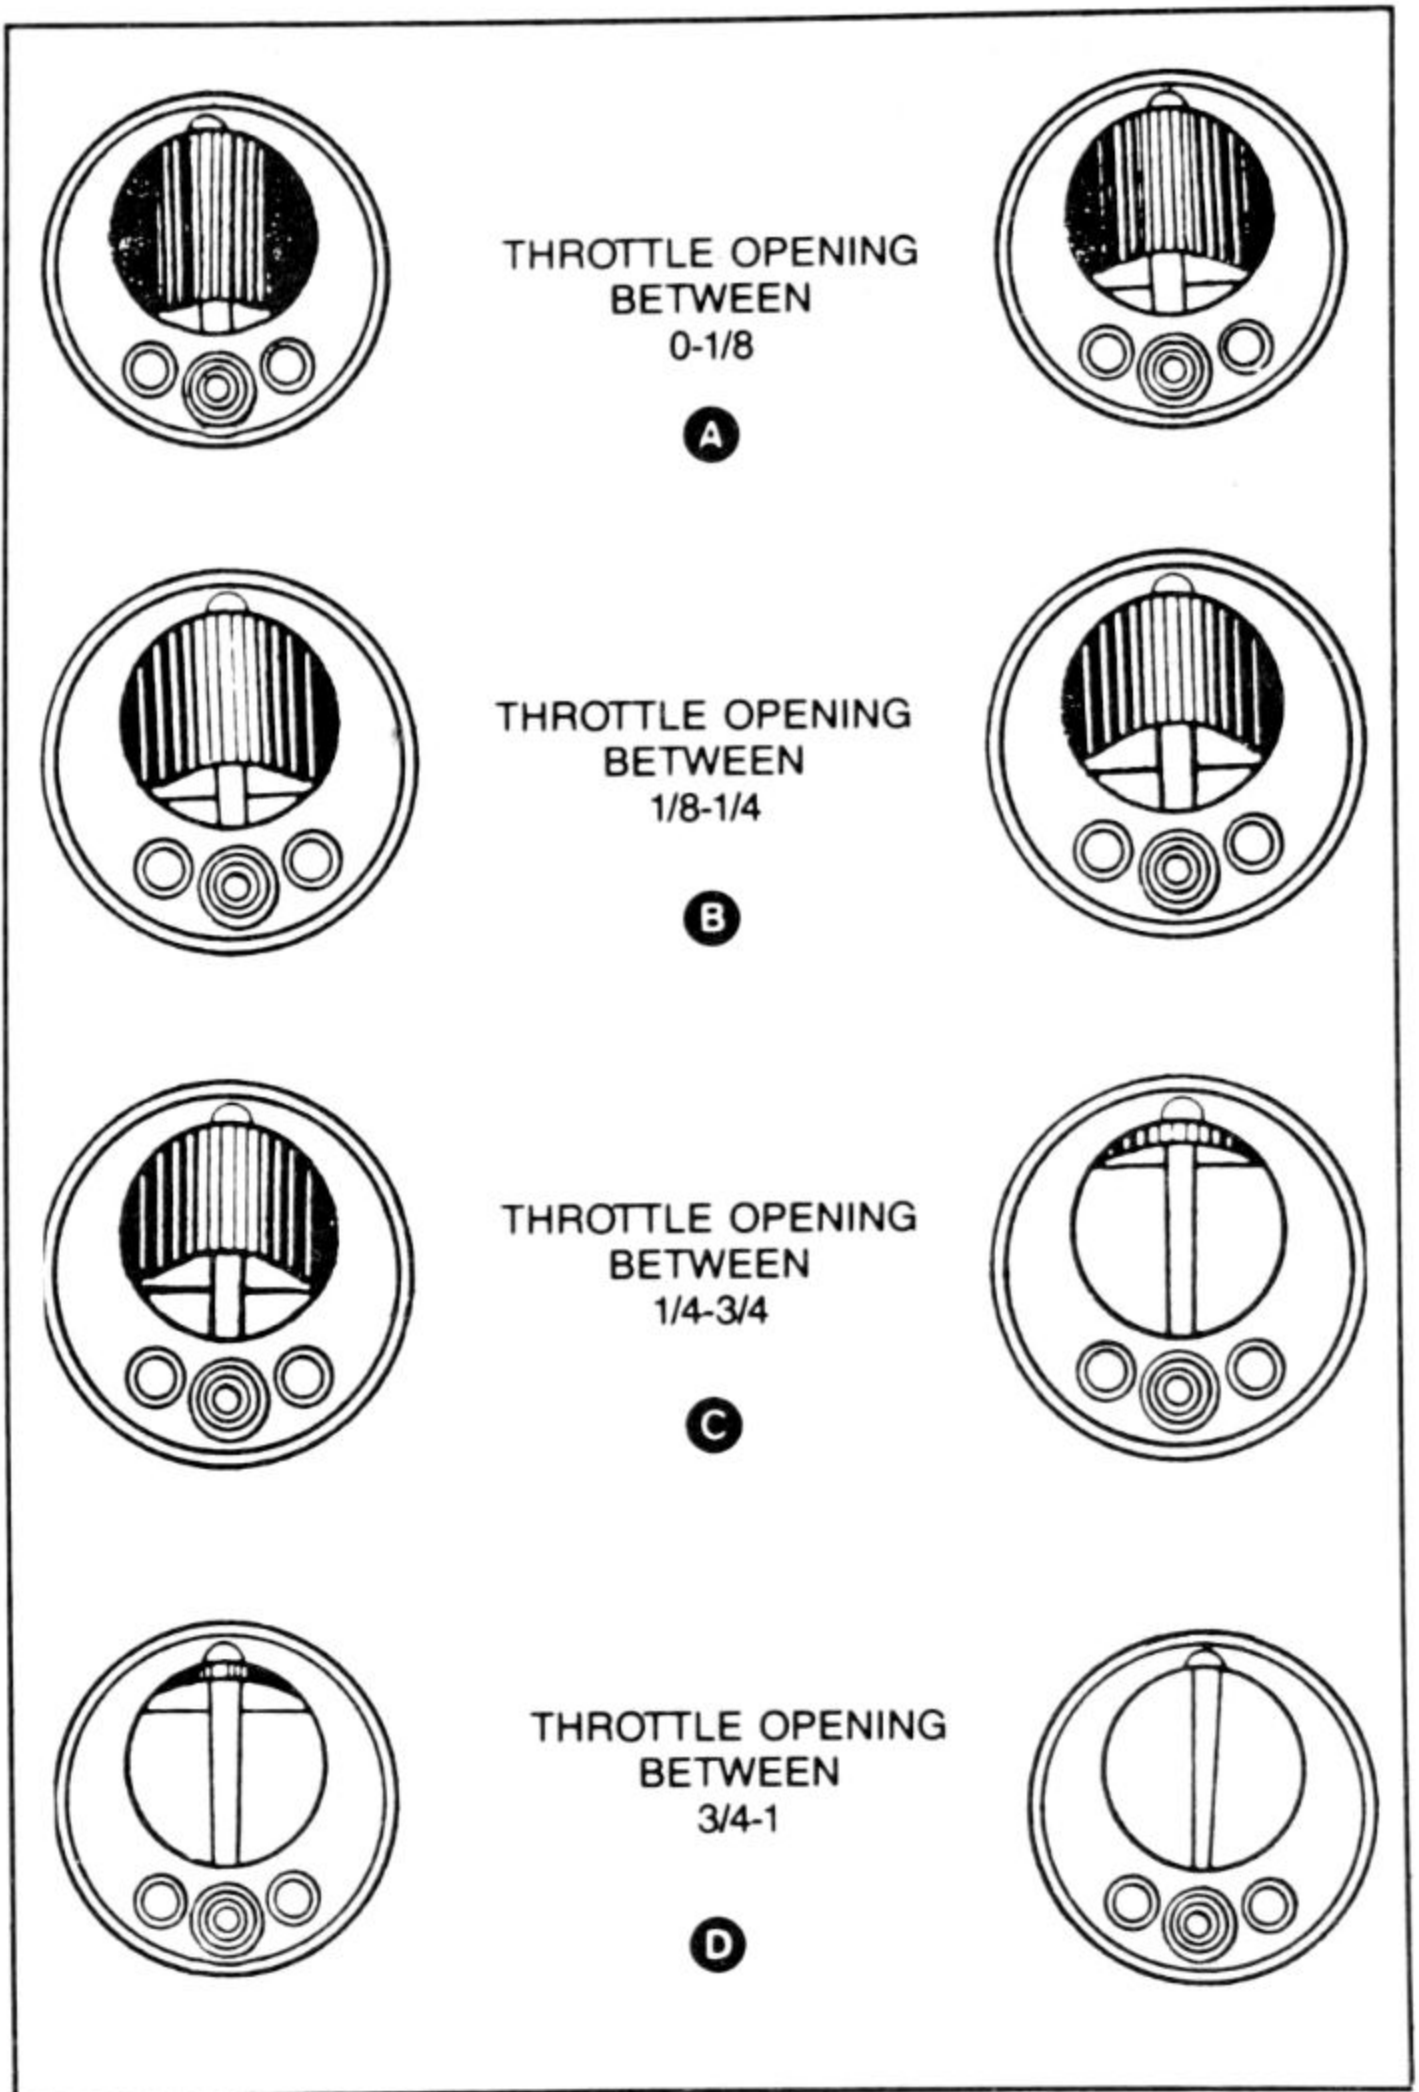

Fig. 3-14. Black, fluffy carbon deposits on a spark plug tip indicate an overly rich fuel-air mixture. (Courtesy of Kohler Co.)
- Low speed mixture screw, present on all carburetors, located near the throttle slide and often regulates air (rather than fuel) flow. When this is the case, tightening the screw enriches the mixture between closed and 1/8 open throttle (A of Fig. 3-14).
- Cutaway, milled on the edge of the slide throttle to drive air into the bore. Increasing the angle of the cutaway leans the mixture between 1/8 and 1/4 throttle (B of Fig. 3-14). While all carburetors have such a cutaway, changing the factory adjustment depends upon parts availability and is rarely done.
- Fuel needle setting, or distance the needle extends below the throttle slide. Needle is usually grooved and secured to slide with a spring clip. Raising the needle, obscures less of the high speed jet and provides a richer mixture at 1/4 to 3/4 throttle (C of Fig. 3-14). Needles can sometimes be obtained with different tapers.
- High speed jet diameter controls mixture strength between 3/4 and wide open throttle (D of Fig. 3-14). Unless the engine has been extensively modified or is operated at high altitudes, a jet change is normally not required.
- Soot on spark plug tip that will extend to inside of exhaust pipe (Fig. 3-14).